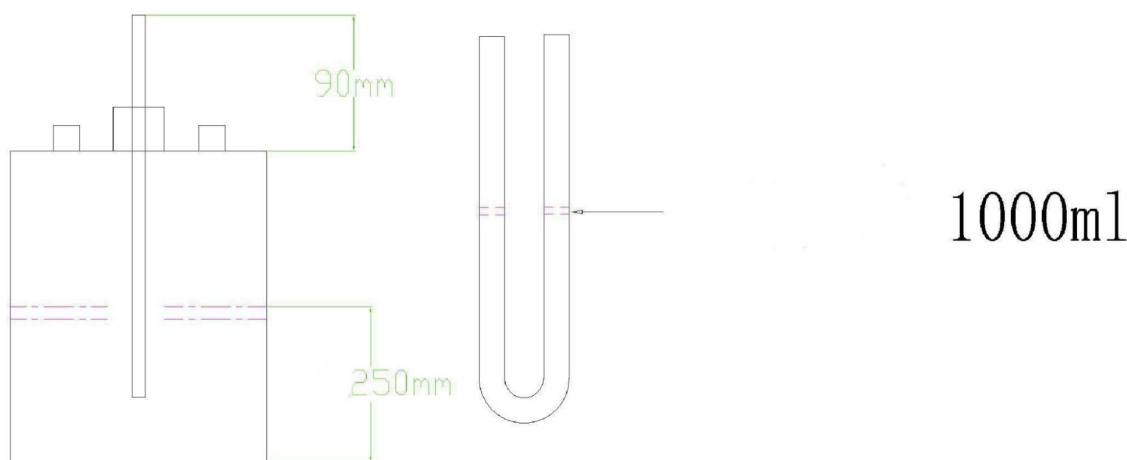

Figure 3
2. Add a water level of 100mm to U-shaped tube differential pressure gauge, and connect the silicone hoses of two 5-liter vacuum water tanks according to the schematic diagram in Figure 3,